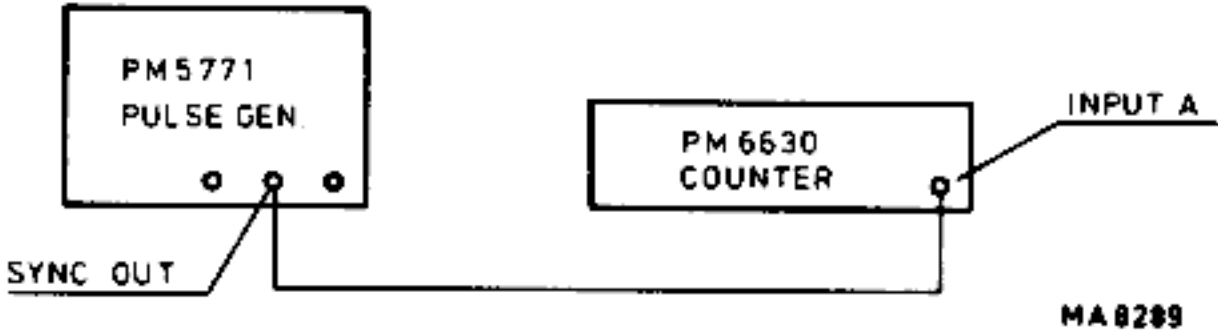

Fig. IX-5. Test set-up for checking SYNC OUT, maximum frequency
- Test set-up is shown in Fig. IX-5.